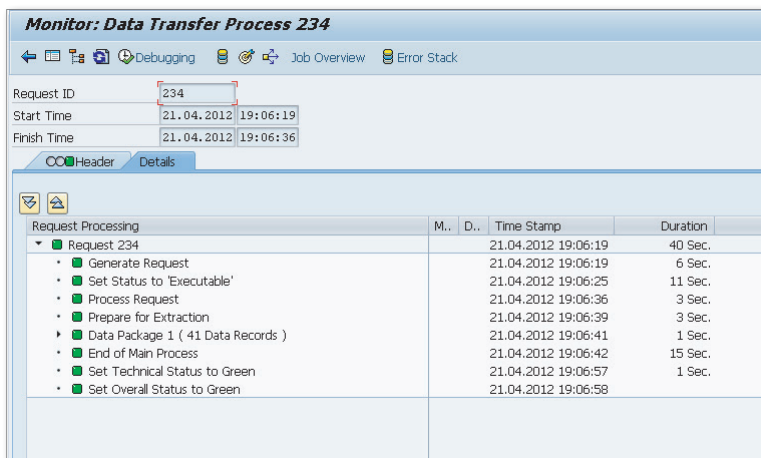

Figure 4.14 Monitor Data Transfer Execution Process
7. In the INFOPROVIDER ADMINISTRATION window, select the REQUESTS tab to see the requests that were loaded into the InfoCube. Click on the monitor icon associated with a request to view the details. Figure 4.14 shows the details of the request loaded into the Sales InfoCube.